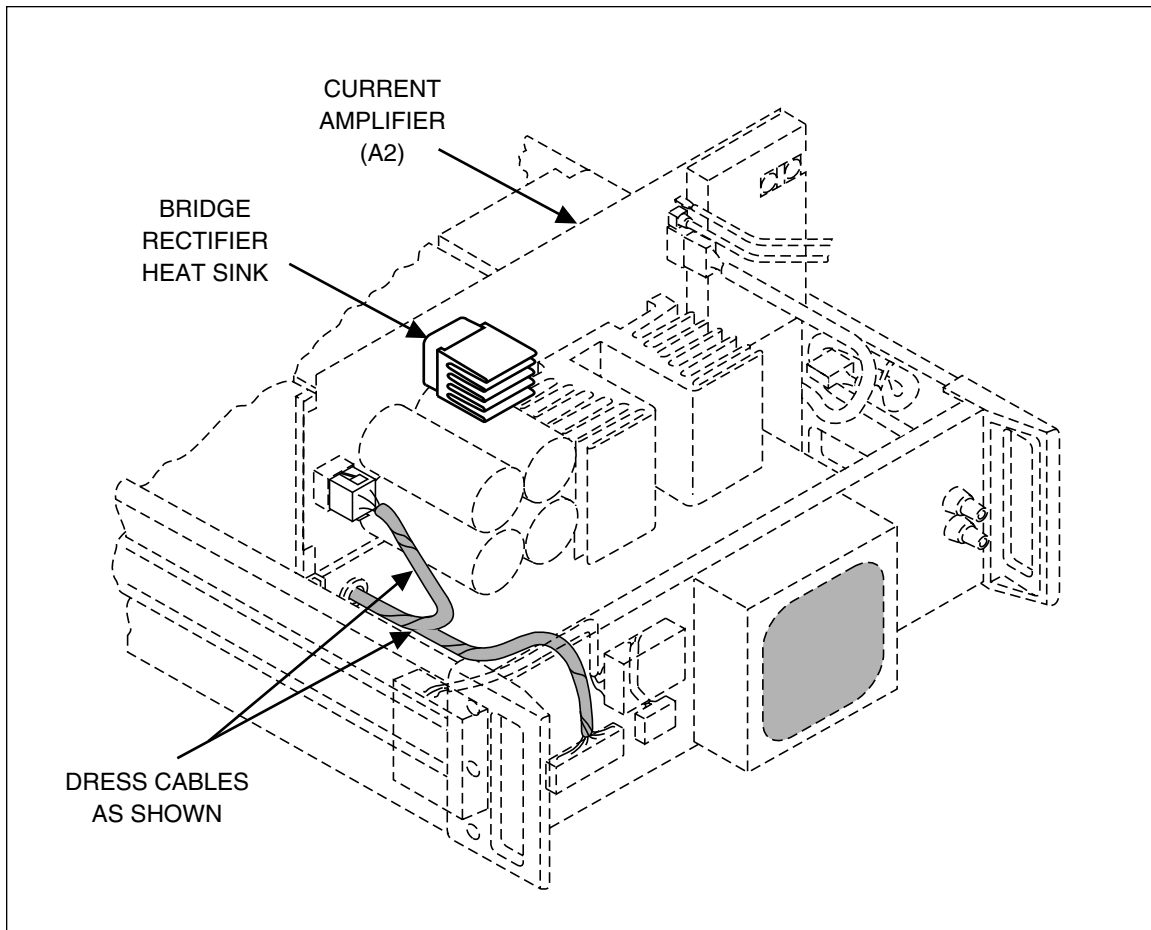

Figure 6-6. Correct Way to Dress Cables
**When reinstalling the assembly, refer to Figure 6-6 and make sure cable harnesses are dressed as shown, to avoid shorting wires to the bridge rectifier heat sink or chassis.**